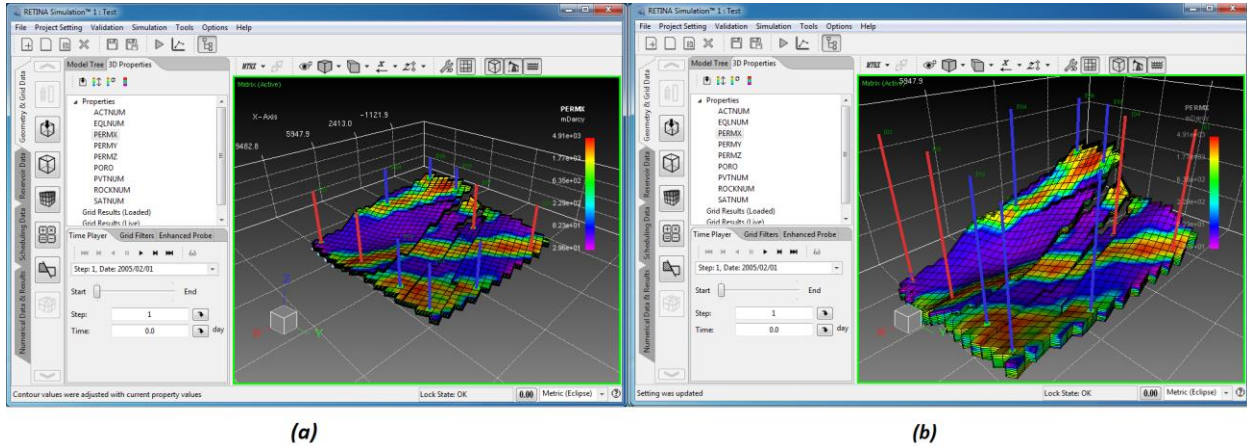

Figure 200- A) Original Scale, B) Scaled to (3, 2, 10)
- *Scale*: there are three numbers in “Value” column, which are scale multipliers in x, y, z directions. For example if the first number changes to 2, the length of model in the x direction will be multiply in 2. The Scale with (3, 2, 10) is shown with the original view of the model in the Figure 200.